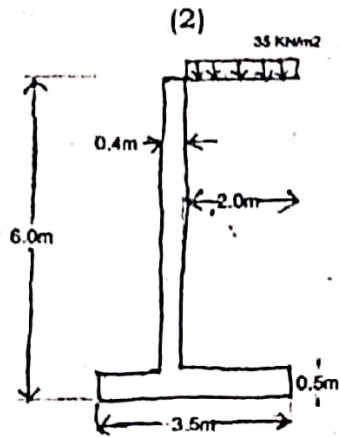

Fig. 3(b)
- 1(a) Explain about the different types of sampling of soil. What is the requirement of a good sampler? (4) 4+4
- (b) Derive Terzaghi's bearing capacity equation. What is the limitation of the Terzaghi's bearing capacity theory. (5) 6+2
- 2(a) Explain about the Dynamic cone penetration test and static cone penetration test. Give the typical graph for the cone penetration test. (6) 3+3+2
- 3(a) Explain about the different types of pile. Compare the piles according to the method of installation with the corresponding advantages and disadvantages (2) 4+4
- (b) Determine F.O.S against sliding, overturning and maximum and minimum pressure under the base of the cantilever retaining wall as shown in fig. 3(b). The approximate shear strength parameter for the soil $c=0$, $\phi=41^\circ$. The unit weight of soil and concrete are 16 KN/m^3 and 24 KN/m^3 respectively, the water table is below the base of the wall. Take $\delta=27^\circ$ on the base of the wall. Safe bearing capacity of the soil below the base is 500 KN/m^2 . 8